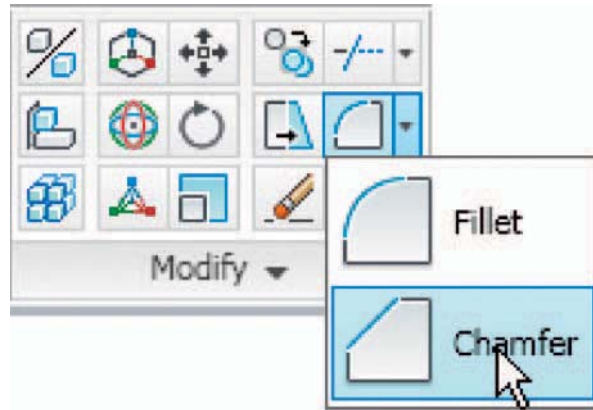

Fig. 12.31 The **Chamfer** and **Fillet** tools in the **Home/Modify** panel
The **Chamfer** and **Fillet** tools from the **Home/Modify** panel (Fig. 12.31) used to create chamfers and fillets in 2D drawings in AutoCAD 2010 can just as well be used when constructing 3D models.
3. Click the **Fillet** tool icon in the **Home/Modify** panel (Fig. 12.31). The command line shows:
4. Click the **Chamfer** tool in the **Home/Modify** panel (Fig. 12.31). The command line shows: